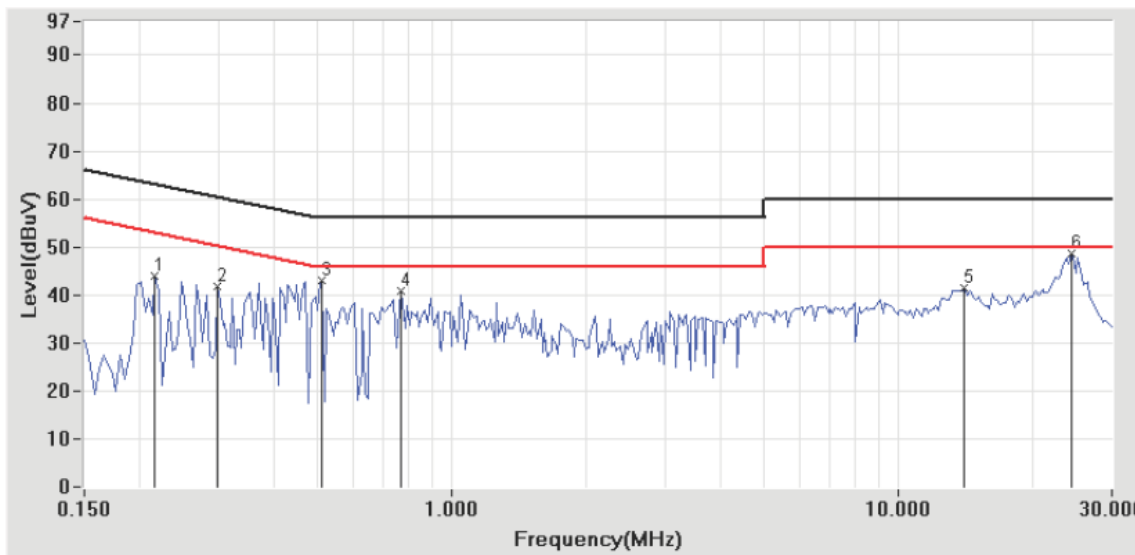

Figure 4.1 : CISPR22 / EN55022 Class B (Conduction Limit)
**Note:** The frequency band in between 0.15MHz and 0.5MHz, the limit decreases linearly with respect to the logarithm value (Figure 4.1).